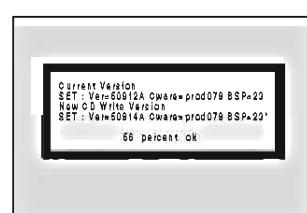

Fig. 3-2-8
- 8) Pressing the REC ● button on this HDD/DVD recorder will start writing (Fig. 3-2-8). To cancel writing, press the OPEN/CLOSE ▲ button and remove the disc.